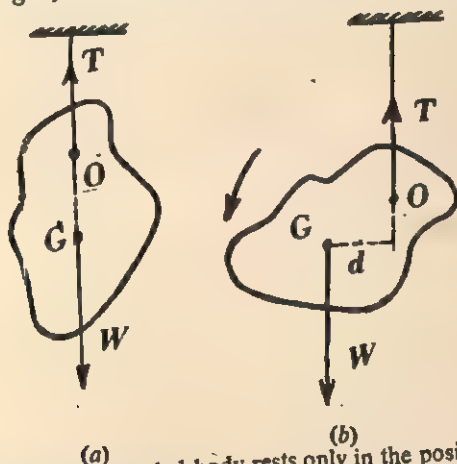

Fig. 2.2. A suspended body rests only in the position (a).
**Theory.** When a body is suspended from a point  $O$  [Fig. 2.2(a)] other than its centre of gravity  $G$ , the body comes to rest in a position such that the C.G. is vertically below the point of suspension  $O$ . If the body is displaced from this position as shown in Fig. 2.2(b) an anti-clock moment of magnitude  $W.d$  acts about the point  $O$  so as to bring the body back to the original position of Fig. 2.2(a), where the points  $O$  and  $G$  are on the same vertical line. Thus in the equilibrium position [Fig. 2.2(a)] in addition to the resultant force, the torque on the body must also be zero.
We have already discussed in §2.03 with the help of Fig. 2.2(a) and (b) that a body will be in equilibrium when (i) the resultant force acting on it is zero and (ii) the resultant moment of the forces acting on it is zero.